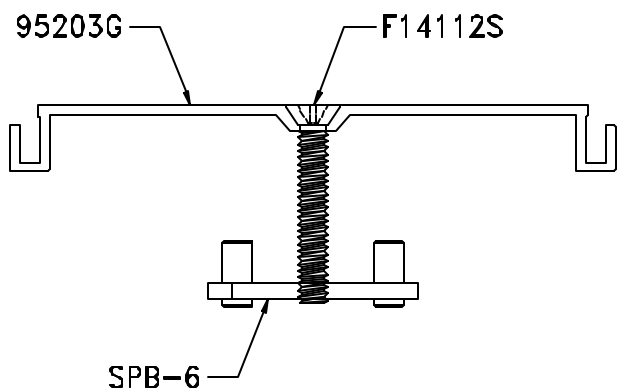

Figure 13
- STEP 27.** Attach a centering bar to the end of each fastener in the cover plate (see Figure 13). Position the centering bars so that they are parallel to the joint and cover plate and so that the centering bar pins will clear the base member channels when the cover plate is put into position for installation.